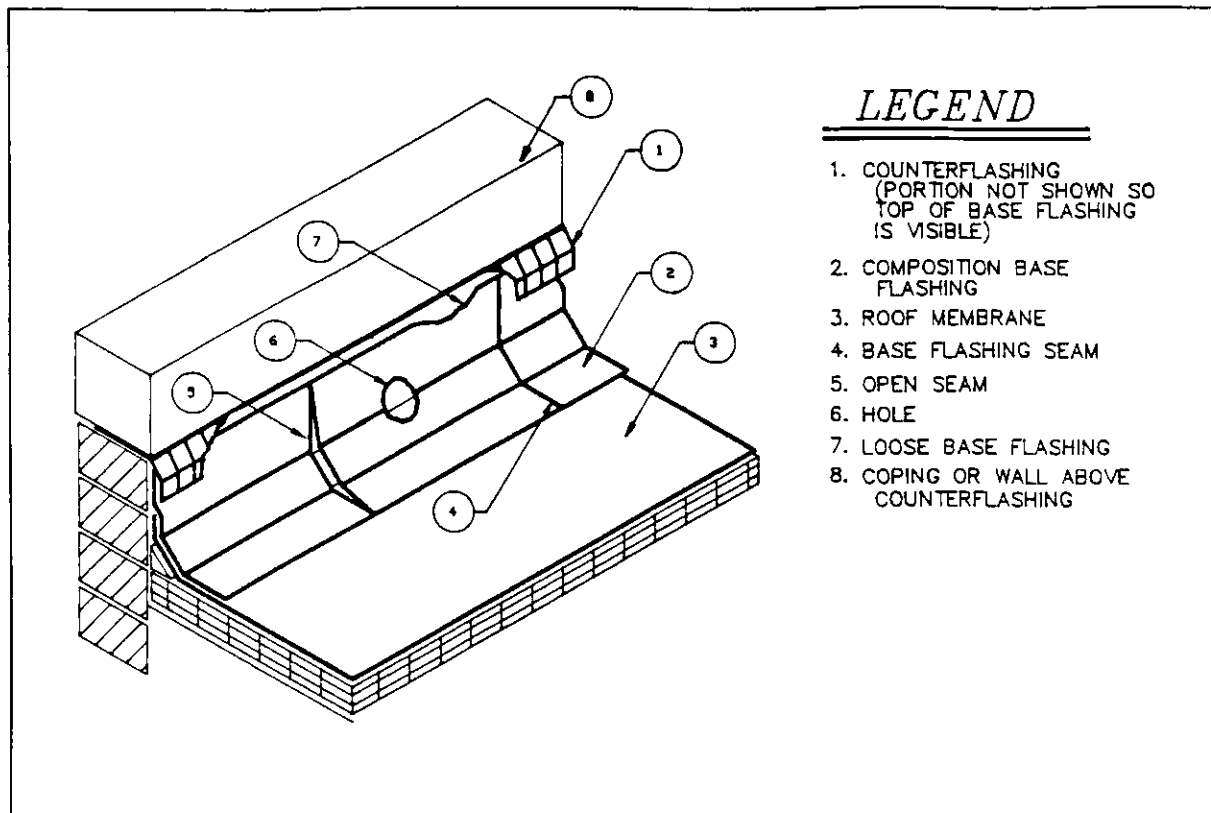

Figure 5-1: Composition Base-Flashing Open Seam
Base flashing consists of material providing the watertight transition between the roof and the wall, parapet, equipment curbs, equipment supports, and chimneys. Base flashing is constructed of asphalt-based composition-roofing material or metal (older installations). Base flashings should be a minimum of 8 inches high, securely fastened at the top and firmly adhered to wall and cant surfaces. The top 3 to 4 inches of the base flashing should be covered with counterflashing. Base flashing deficiencies consist of openings at the top of the flashing, a top edge of flashing which is too low, inadequate cover by counterflashing, open seams, holes, and poor securement to wall. Defective base flashing should be repaired. Causes include cracks or breaks in vertical joints of the metal base flashing, incompatible thermal movement between metal base flashing and roof membrane, punctures, broken laps at seams, separation or sagging from wall, disintegration of surface coating, and differential movement between roof deck and wall. Figures 5-1 through 5-4 show some of these deficient conditions with associated repairs.
- Broken Laps and Split Seams in Composition Base Flashing (see Figures 5-1 and 5-2): Seal all cracks, holes, and open seams in composition base flashing with two-ply cement and fabric patch. Terminate cement and fabric repair 1 inch under counterflashing or coping, if within 6 inches.